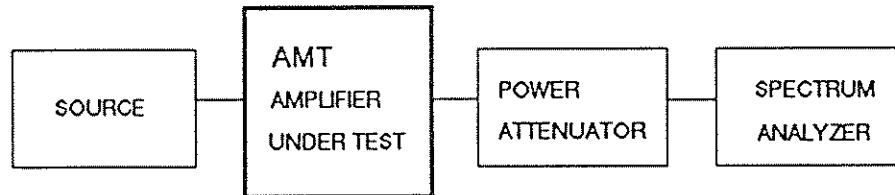

FIGURE 2-2. SETUP FOR HARMONIC LEVEL CHECK
1. Connect the amplifier as shown in Figure 2-2.